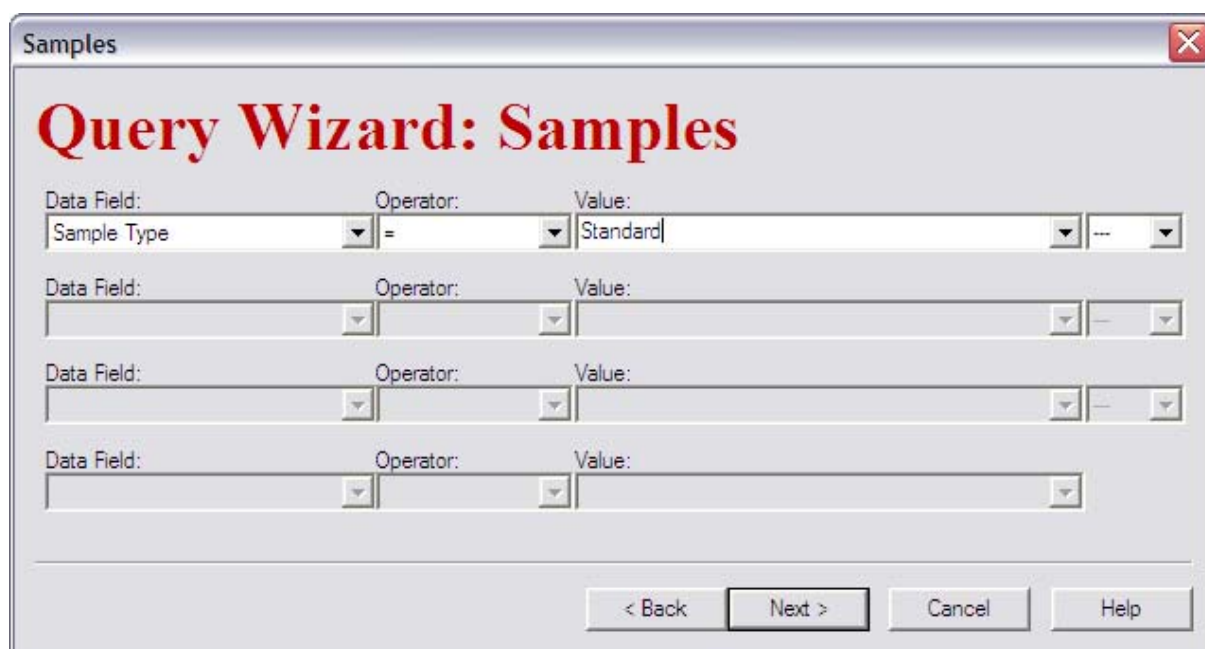

FIGURE 3-27: Sample criteria in the **Query Wizard**.
- The sample type can be specified in FIGURE 3-27, depending on how the samples of interest are specified in the sequence. Other sample parameters e.g., sample injection time can also be used as a query criteria.